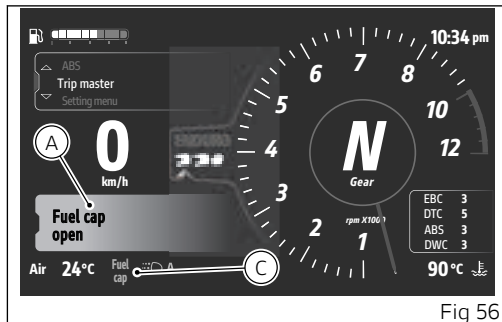
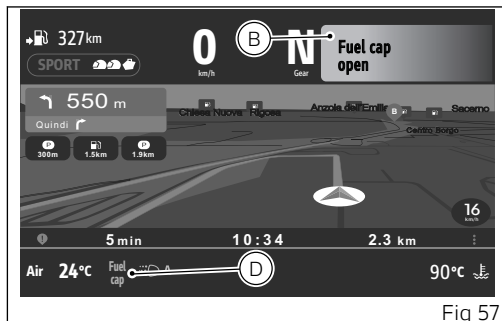

Fig 56
Fig 57
- when activated, it is displayed for the first 5 seconds in the large format (A main screen, Fig 56) (B Ducati Connect screen Fig 57);
- then it is displayed in the small format (C main screen, Fig 56) (D Ducati Connect screen Fig 57).